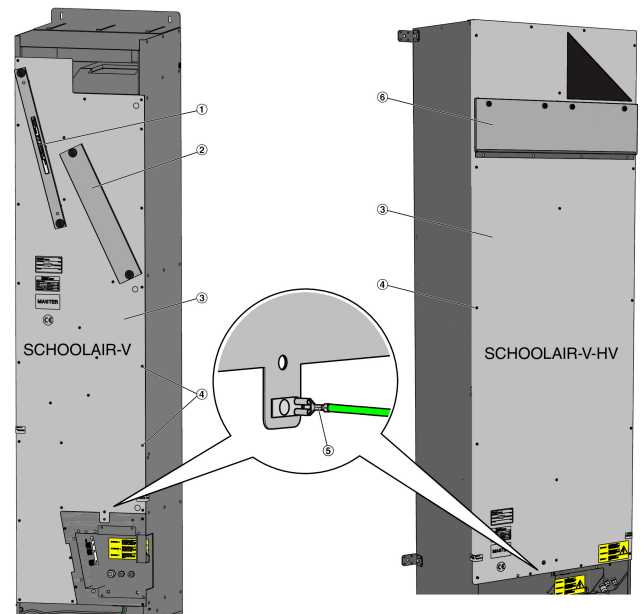

Fig. 32: Removing the cover plate (SCHOOLAIR-V and SCHOOLAIR-V-HV only)
3. ▶ Remove the extract air filter (Fig. 32/1) and remove the cover (Fig. 32/2) from the outdoor air filter chamber ↪ on page 34.
5. ▶ Remove the cover plate (Fig. 32/3) by loosening all the Phillips screws (Fig. 32/4) on the plate.
Disconnect the protective conductor (Fig. 32/5) when you remove the plate.